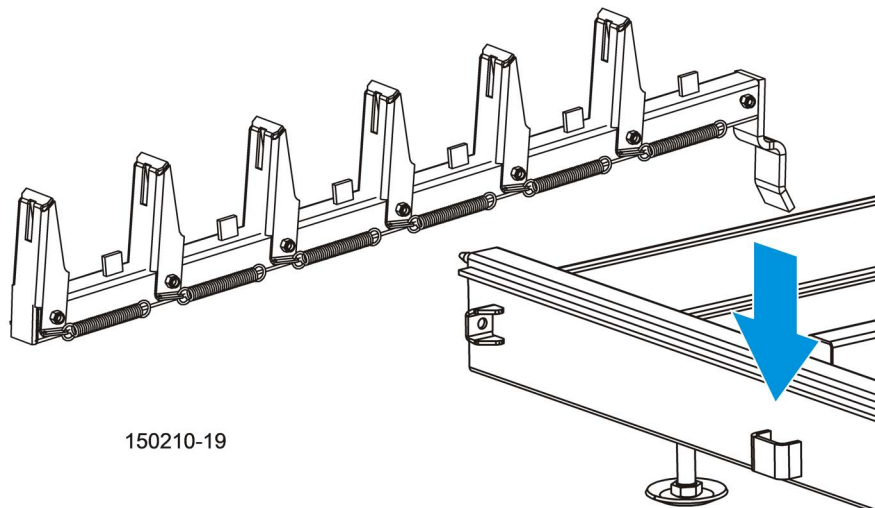

FIG. 5-1
4. Place the **optional** loading ramps* (part number 015804) in the frame brackets that will evenly support the length of the log. See FIG. 5-1..